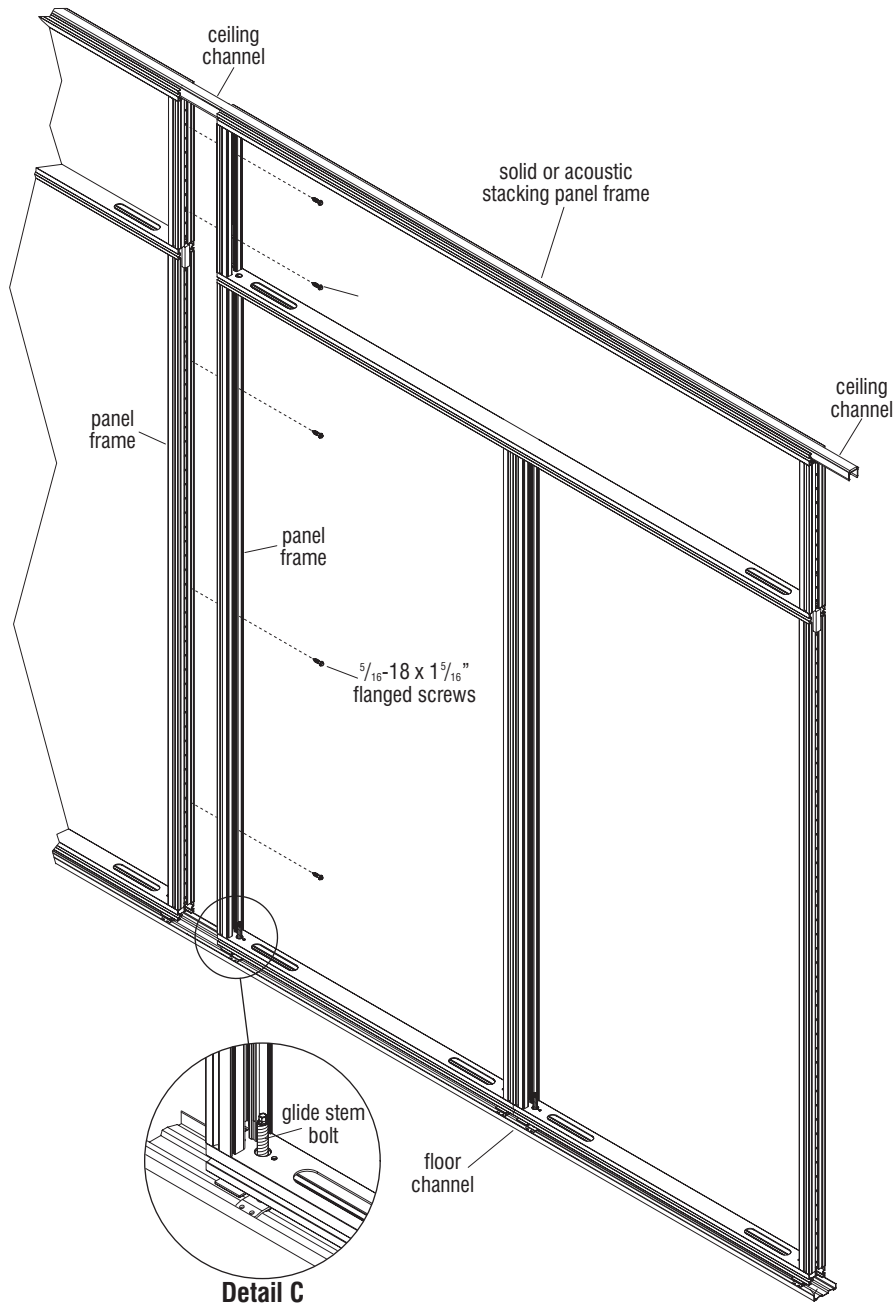

Figure 3
8. If specified that a second panels with panel-spanning stacking section must be assembled and joined to the first unit above, begin again by following steps 2-7 above. Take care to assure that the second unit is up and leveled next to the first, set perfectly plumb to be joined together. Press the second panels with glass stacking section unit tight to the first and secure the panel frames together using three evenly spaced  $\frac{5}{16}$ -18 x  $1\frac{5}{16}$ " flanged screws at pre-drilled holes in the panel's vertical frame uprights (Figure 3 & Detail C).
9. Next, at the stacking section unit of the second assembly, hold the second spanning stacking section tight to the top of the first and secure together using two or three #10-32 x  $\frac{1}{2}$ " T25 pan head screws with a power drill and T25 Torx driver to secure the tops of the units together as illustrated (Figure 3).